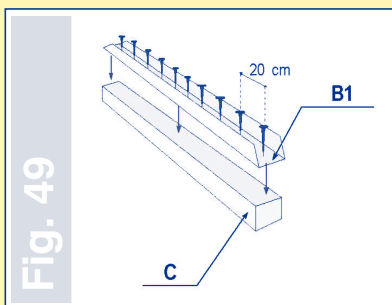

Fig. 49
- screw channel section B1 to the fixing cross-piece (C1) using assembly screws in a distance of every 20 cm - Fig. 49